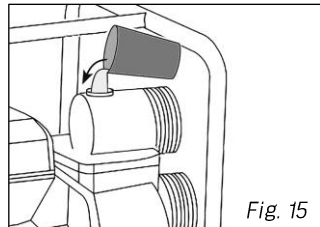

Fig. 15
3. Remove the primer plug from top of pump and flush the pump's internal components with clean water (Fig. 15).